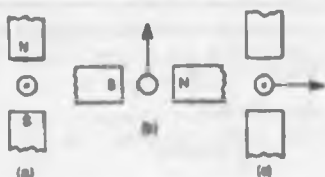
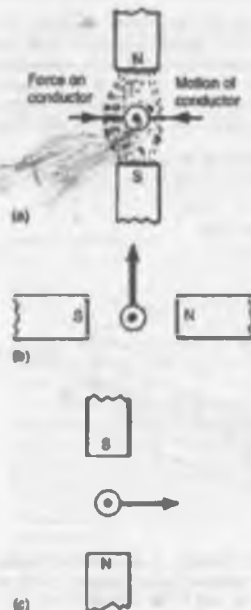

Figure 9.4
Figure 9.5
Problem 5. The diagrams shown in Fig. 9.4 represent the generation of e.m.f.s. Determine (i) the direction in which the conductor has to be moved in Fig. 9.4(a), (ii) the direction of the induced e.m.f. in Fig. 9.4(b), (iii) the polarity of the magnetic system in Fig. 9.4(c)
(i) Using Lenz's law: The field due to the magnet and the field due to the current-carrying conductor are shown in Fig. 9.5(a) and are
i.e. towards the viewer or out of the page, as shown in Fig. 9.5(b)
(iii) The polarity of the magnetic system in Fig. 9.4(c) is shown in Fig. 9.5(c) and is obtained using Fleming's right-hand rule.